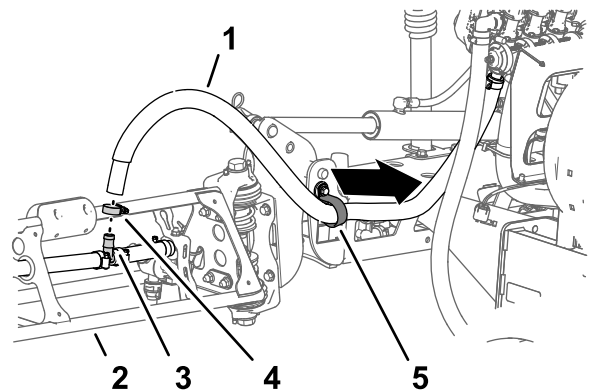

Figure 35
1. At the outer spray section, remove the hose clamp that secures the sprayer-section hose to the barbed T-fitting (Figure 35).
2. Remove the hose from the T-fitting (Figure 35).
3. Remove the free end of the hose from the R-clamp (Figure 35).